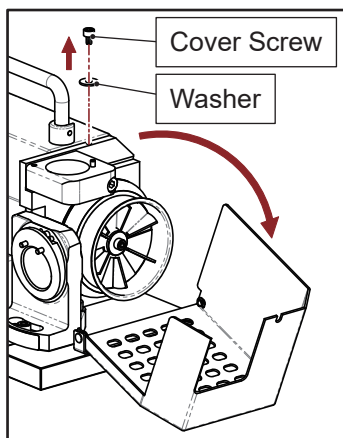

Fig. 13-2
- ③ Loosen the screw from the grinding wheel cover to open the cover. (Fig. 13-2)